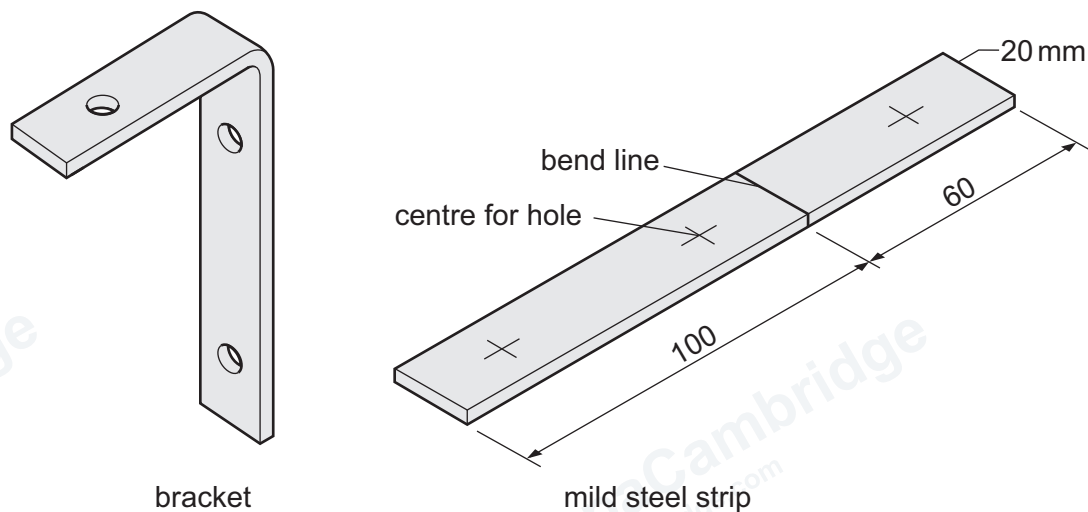

Figure 4.1
- 4 Figure 4.1 shows a bracket that has been made from a length of mild steel strip.